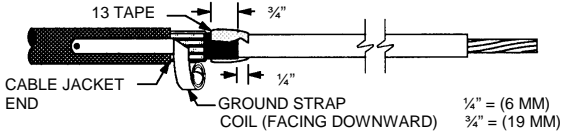

Figure 2
7. Wrap 2 highly stretched half-lapped layers of Scotch 13 Semi-Conducting Tape over end of cable semi-con. Start and end taping ¾" (19 mm) onto cable semi-con, leaving a smooth, even leading edge ¼" (6 mm) onto cable insulation (Figure 2).
2. Lay the ground strap along cable with extended coil facing downward (away from you) (Figure 2). **NOTE:** Coil should be in contact with cable shielding and as close as possible to the cable jacket end.